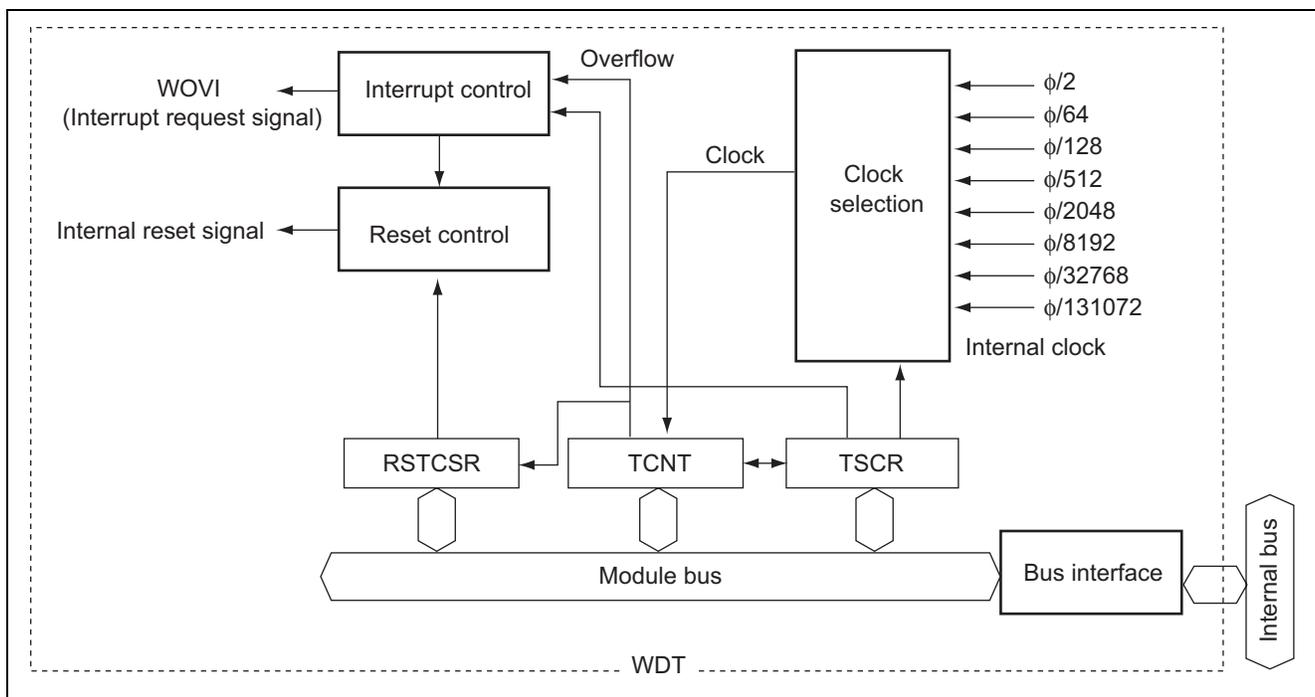

Figure 1 Block Diagram of Interval Timer
- Figure 1 shows a block diagram of the interval timer, and the following is the description for the block diagram (this block diagram is the same as that of the watchdog timer):